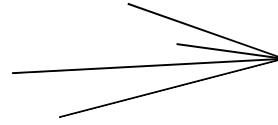

Figure 49: LCD
- 9 Unscrew the 4 screws holding the LCD Board in place. See Figure 49.